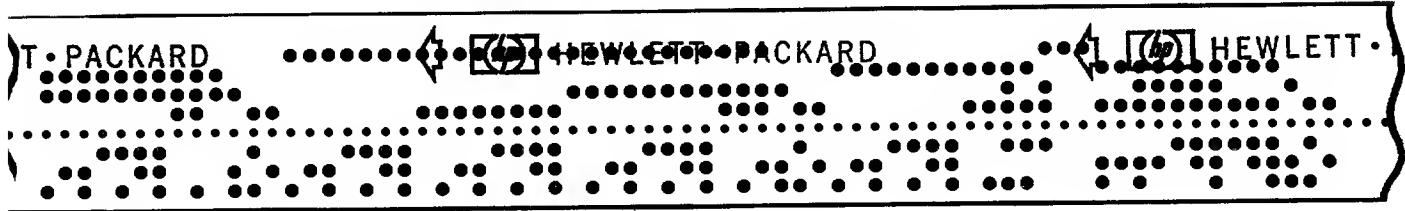

Figure 1-4. Master Tape
9. Compare the tape just produced with figure 1-4, the two tapes should be identical. If the tapes differ, use SLEUTH to determine the problem with the paper tape punch.